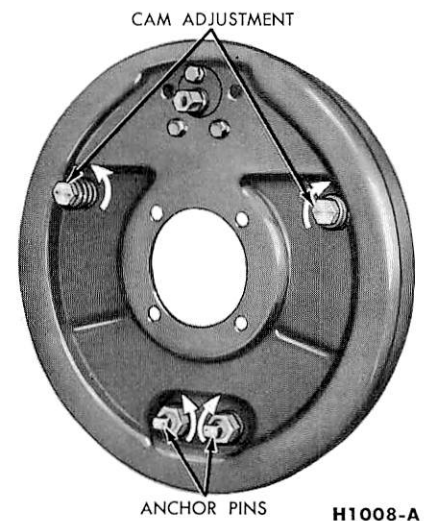

FIG. 4—Double Anchor Brake Adjustment
2. With the drums at normal room temperature, check to see that the wheels turn freely without drag. If necessary, turn the adjusting cams in the opposite direction to that shown in Fig. 4 to free the brakes.
3. Turn the adjusting cam of the forward (primary) shoe in the direction shown in Fig. 4 until the shoe drags against the drum.
4. Loosen the secondary shoe anchor pin nut (Fig. 4). Turn the secondary shoe anchor pin until the brake shoe-to-drum clearance at a point $1\frac{1}{2}$ inches from the heel end of the shoe is 0.007 inch. Remove the feeler gauge.